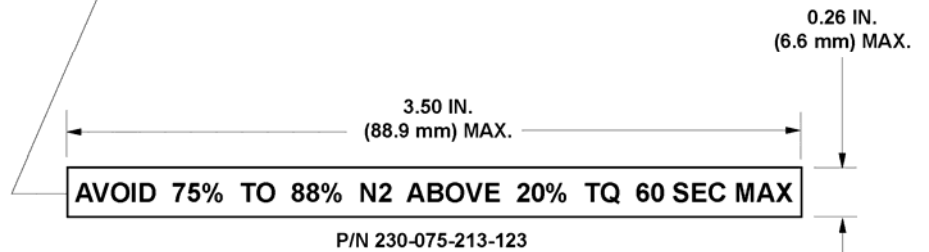

Figure 1 – Typical 206L Instrument Panel Layout
2. The decal may be locally manufactured using lettering of white color (No. 17875) on black background color (No. 17038). Characters to be 10 point Spartan blackfont. Color per FED STD 595. The text for the decal is detailed in Figure 1 and should be in capital letters.
2. Install decal 230-075-213-123 on the instrument panel as shown in Figure 1, below the NR/N2 dual tachometer. Sealer C-349 shall be applied over the installed decal.